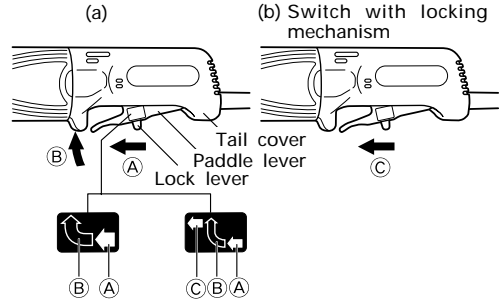

Fig. 3
3. To prevent a new depressed center wheel from digging into the workpiece, initial grinding should be performed by drawing the grinder across the workpiece toward the operator (Fig. 3 direction B). Once the leading edge of the depressed center wheel is properly abraded, grinding may be conducted in either direction.
Switch ON: To switch on, slide the lock lever in the direction of (A) and press the paddle lever in the direction of (B) as shown in Fig. 3-a.
Furthermore, slide the lock lever in the direction of (C) shown in Fig. 3-b while pressing the paddle lever to lock and enable continuous operation.
Switch OFF: To release the locking mode, press the paddle lever in the direction of (B) shown in Fig. 3-a, and release the paddle lever to switch off.
To switch on, slide the lock lever in the direction of (A) and press the paddle lever in the direction of (B) as shown in Fig. 3-a. Release the paddle lever to switch off.